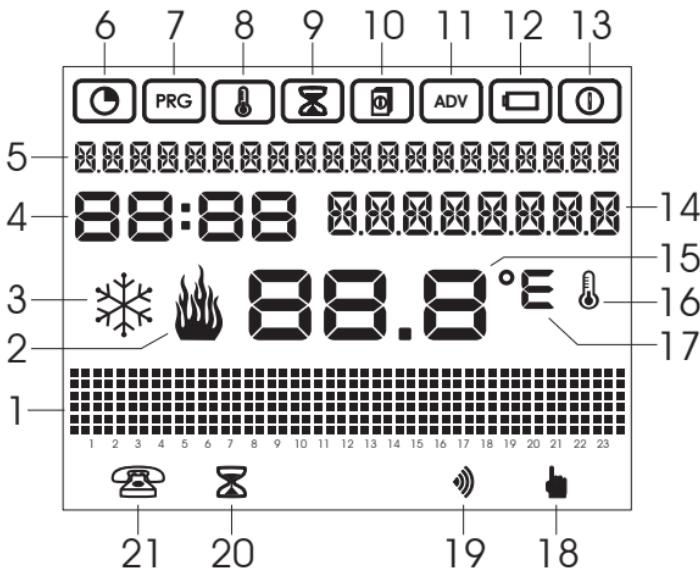

Figure 1
The following information is shown on the LCD screen (Figure 1):
- Using the  $\Delta$  and  $\nabla$  keys from the main page, additional information can be displayed for the current zone. Pressing the key  $\Delta$  in field 14 (see Figure 1), will display the current zone name (if is configured, otherwise the “zone ...” message is displayed).